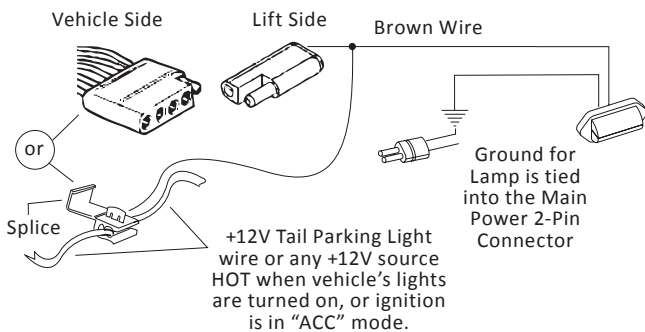

Figure 4-8
**NOTE:** The lift includes a standard two-contact trailer connector. Use this connector for the license plate lamp. If your vehicle is not equipped with the proper connector, use the brown wire to make a wire splice to the tail parking light to get the same result. **See Figure 4-8.**